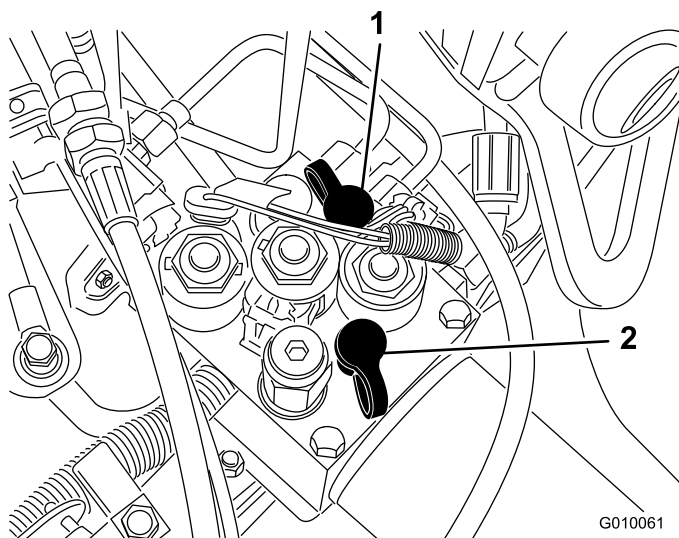

Figure 60
- Test Port G 2 (Figure 60) is used to assist in troubleshooting the traction charge circuit.
- Test Port G 1 (Figure 60) is used to assist in trouble shooting the lift circuit pressure.